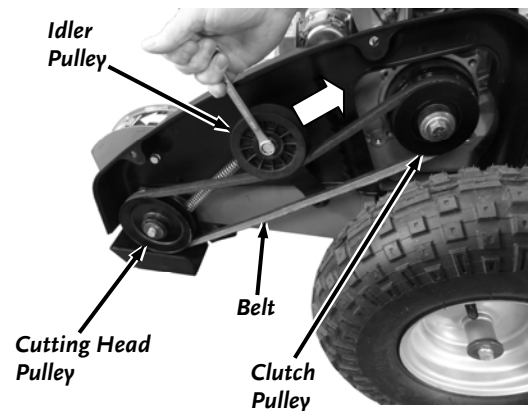

Figure 19
2. You should wear Gloves as you position a 9/16" Wrench onto the Idler Pulley Bolt and inline with the Pulley Bracket (**Figure 19**). Pull the Wrench to rotate the Belt Tensioner away from the Belt and then remove the Belt by rotating the Cutting Head to roll the Belt over the top of the Pulley.